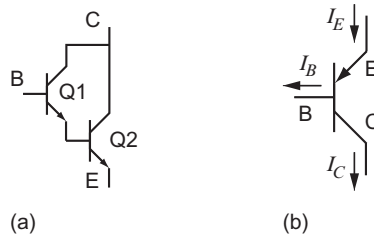

Figure B.13
- p0275 To increase the gain of a transistor we can use two transistors, Q1 and Q2, as a *Darlington pair* (Figure B.13(a)). The two collectors are connected and the emitter of Q1 feeds the base of Q2. The two together act like a single transistor, with the base of Q1 as the base of the pair
p0280 Finally, Figure B.13(b) shows the circuit symbol for a PNP transistor. For a PNP BJT,  $I_C = \beta I_B$  as with the NPN, but now  $I_B$  and  $I_C$  flow out of the transistor and  $I_E = I_C + I_B$  flows into it. At saturation,  $V_E$  is greater than  $V_C$  (typically by about 0.2 V), and when the transistor is on, the voltage drop from  $V_E$  to  $V_B$  is approximately 0.7 V. The PNP BJT is off if  $I_B = 0$ ; it is saturated if  $I_B > 0$  and the voltage drop from  $V_E$  to  $V_C$  indicates saturation; and otherwise it is in the linear mode.